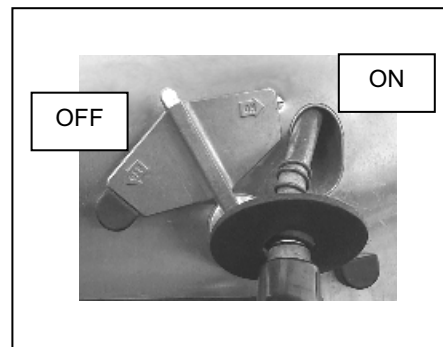

Figure 55
1. Remove the nozzle from the holder and move the lever to the **ON** position. See Figure 55.